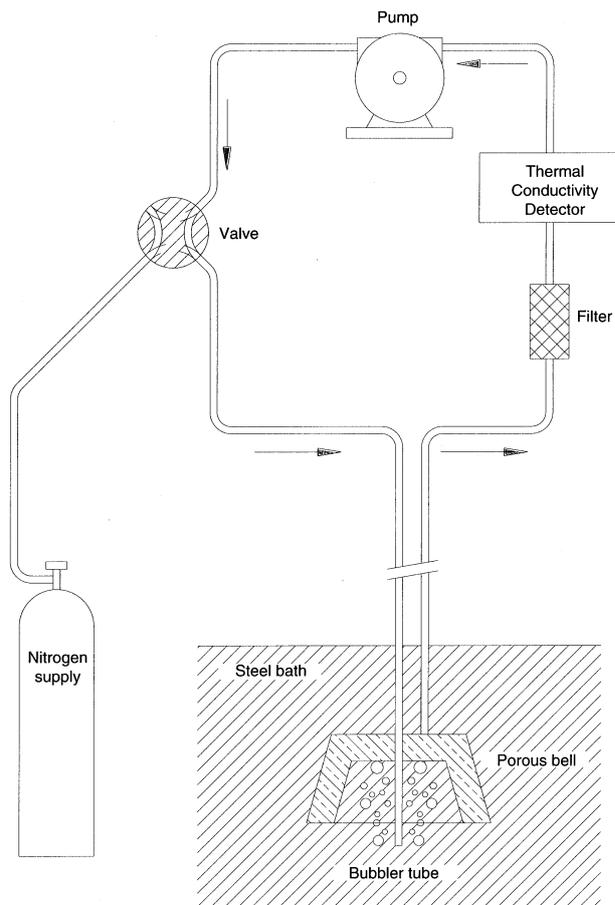

Fig. 1: HYDRIS® schematics
The physical principle of the HYDRIS® sensing method is shown in Fig. 1. Nitrogen carrier gas is injected via lance and immersed probe into the steel. Dissolved hydrogen (H) diffuses into the injected nitrogen, which gets recollected and circulated until equilibrium between liquid steel and gas phases is given. The equilibrium gas is then analyzed by the thermal conductivity detector of the HYDRIS® system comprising computer and pneumatic unit as main components. Sieverts' law gives the relation to dissolved hydrogen in ppm, the figure that steelmakers and quality people want to know: